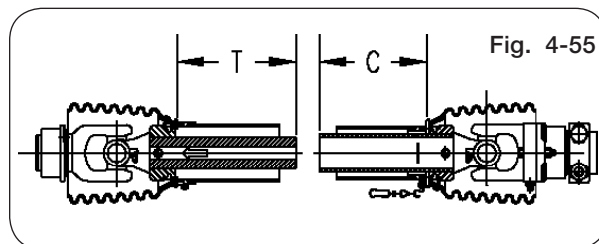

Fig. 4-55
2. Pull apart PTO telescoping shaft ends and measure lengths "T" & "C" (Figure 4-55)